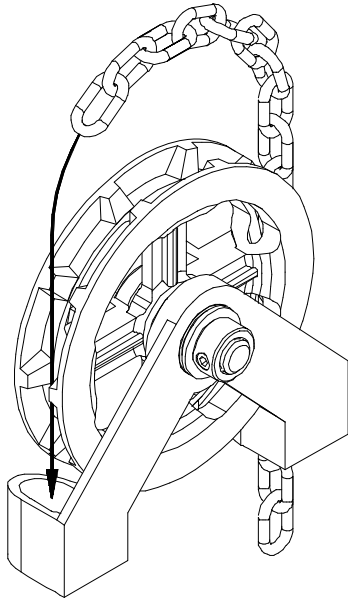

Figure 11 Installing hand chain on Opera-HJ
5. Opera-HJ: Run hand chain through the pocket wheel and through the chain guide outside the frame (Figure 11), allow both ends to hang down toward the ground and cut hand chain, if necessary, so that both ends are approximately 2 feet (0.6 m) from floor. Connect both ends of hand chain.